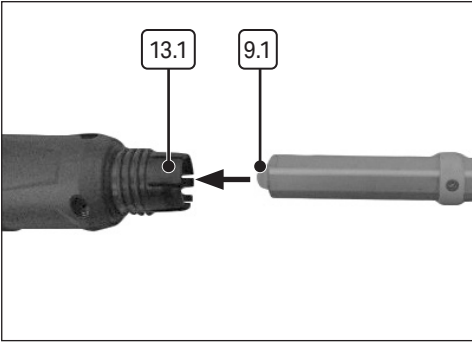
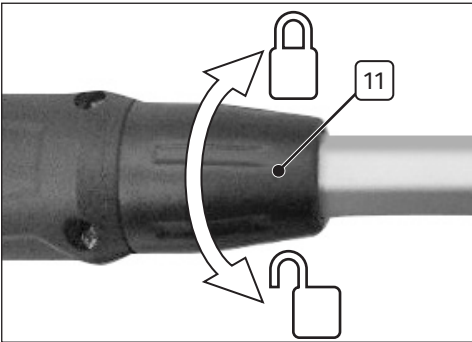

Fig. 1
Fig. 2
6.1 Fitting the Telescopic Pole (Fig.1 – Fig.2)